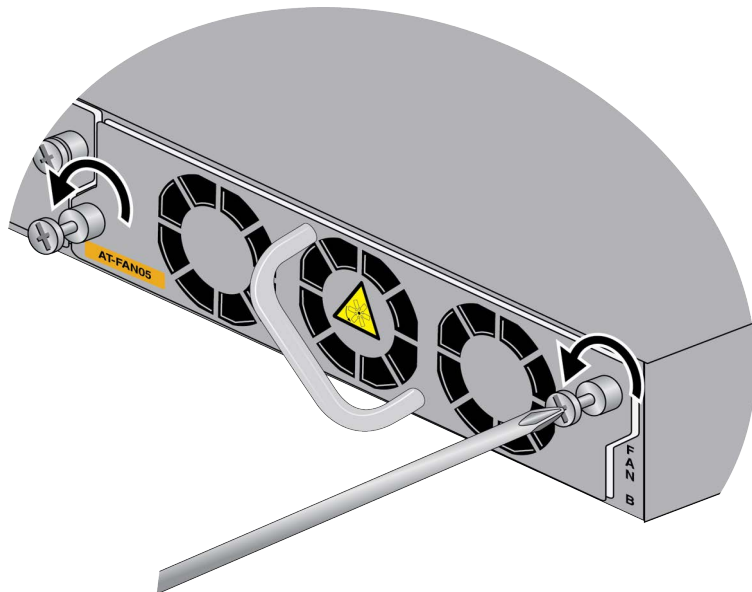

Figure 156. Loosening the Screws on the Fan Module
1. Use a #2 Phillips-head screwdriver to loosen the two screws on the faceplate of the fan module. Refer to Figure 156.